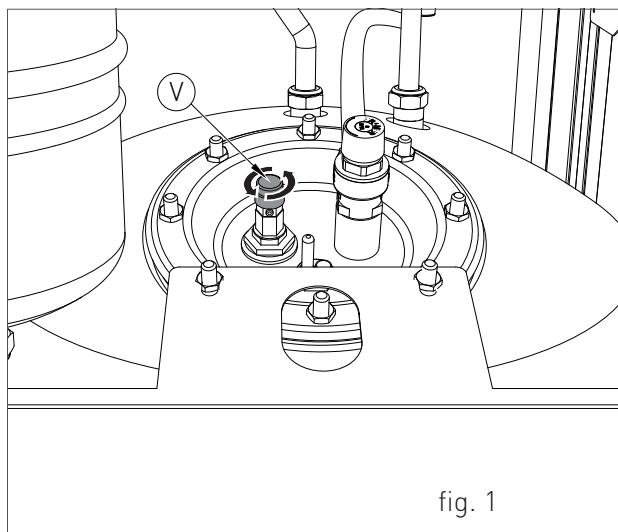

fig. 1
- › turn the discharge tap of the system ‘RS’ (fig. 1);
In order to check the anode functioning it's necessary to open the cap 'V' (fig.1) situated on the top of the boiler.